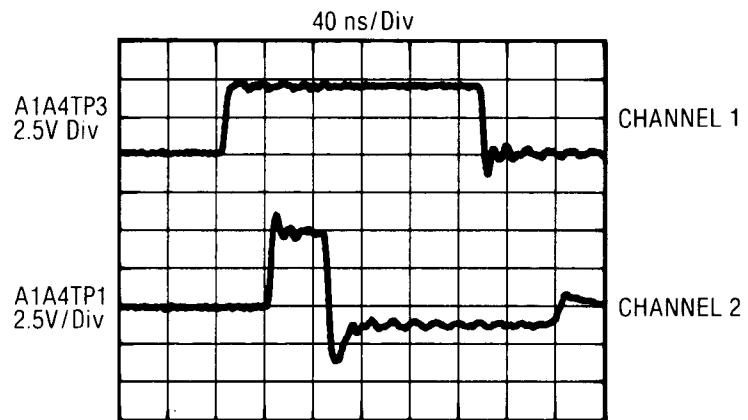

Figure 8-46. Pulse Driver Board Input and Series Pulses
18. Connect Channel 1 of the oscilloscope to A1A4TP3 and Channel 2 of the oscilloscope to A1A4TP1. Adjust the oscilloscope as shown in figure 8-46 then compare the oscilloscope display to the figure.